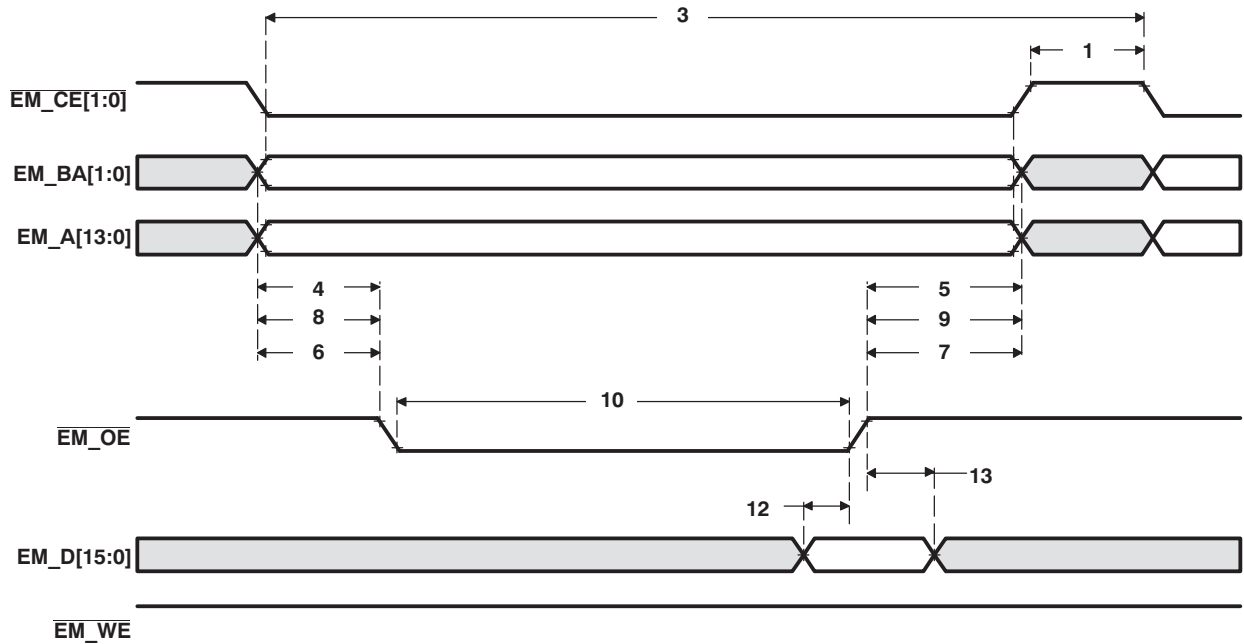
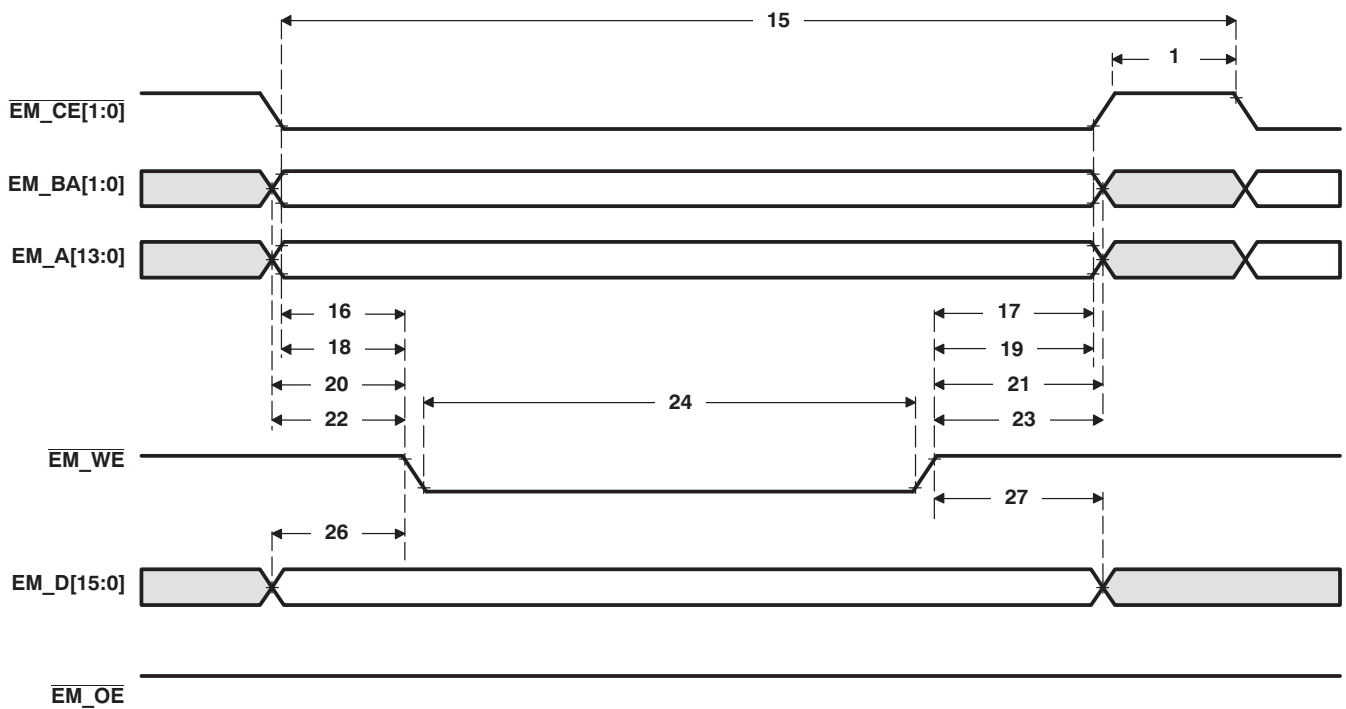

Figure 5-14. Asynchronous Memory Read Timing for EMIF
Figure 5-15. Asynchronous Memory Write Timing for EMIF
Table 5-13. Timing Requirements for Asynchronous Memory Cycles for AEMIF Module(1) (see Figure 5-14 and Figure 5-15)
Table 5-14. Switching Characteristics Over Recommended Operating Conditions for Asynchronous Memory Cycles for AEMIF Module(1)(2)(3) (see Figure 5-14 and Figure 5-15)
- (1) TA = Turn around, RS = Read setup, RST = Read strobe, RH = Read hold, WS = Write setup, WST = Write strobe, WH = Write hold, MEWC = Maximum external wait cycles. These parameters are programmed via the Asynchronous Bank and Asynchronous Wait Cycle Configuration Registers. These support the following range of values: TA[4-1], RS[16-1], RST[64-1], RH[8-1], WS[16-1], WST[64-1], WH[8-1], and MEW[1-256].
- (2) E = PLLC1 SYSCLK2 period in ns. SYSCLK2 is the EMIF peripheral clock. SYSCLK2 is one-fourth the PLLC output clock. For example, when PLLC output clock = 432 MHz, E = 9.259 ns. See Section 3.5 for more information
- (3) EWC = external wait cycles determined by EM\_WAIT input signal. EWC supports the following range of values EWC[256-1]. Note that the maximum wait time before timeout is specified by bit field MEWC in the Asynchronous Wait Cycle Configuration Register.
**Table 5-14. Switching Characteristics Over Recommended Operating Conditions for Asynchronous Memory Cycles for AEMIF Module (see Figure 5-14 and Figure 5-15) (continued)**